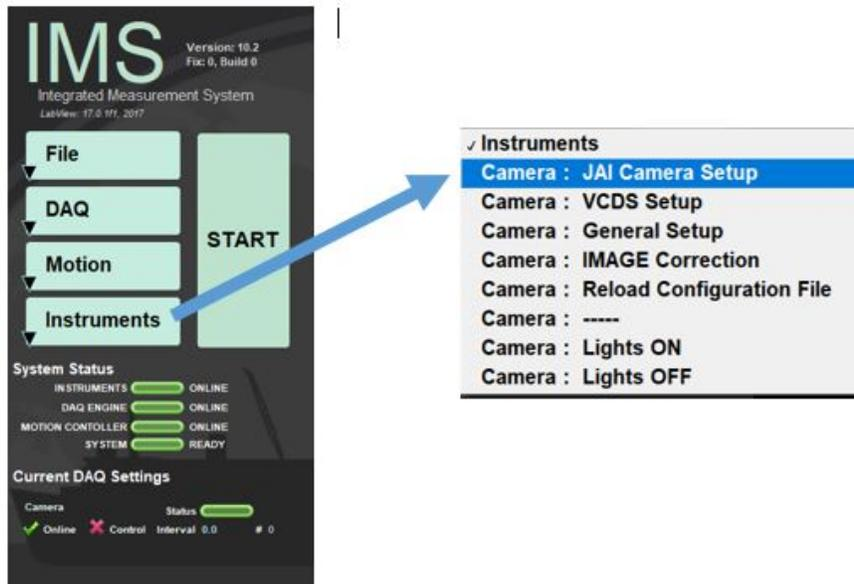

Figure 21. Selecting JAI Camera Setup
2. Back in the IMS control panel go to **Instruments > JAI Camera Settings** (Figure 21). The lights turn on automatically when the JAI Camera Setup window opens.